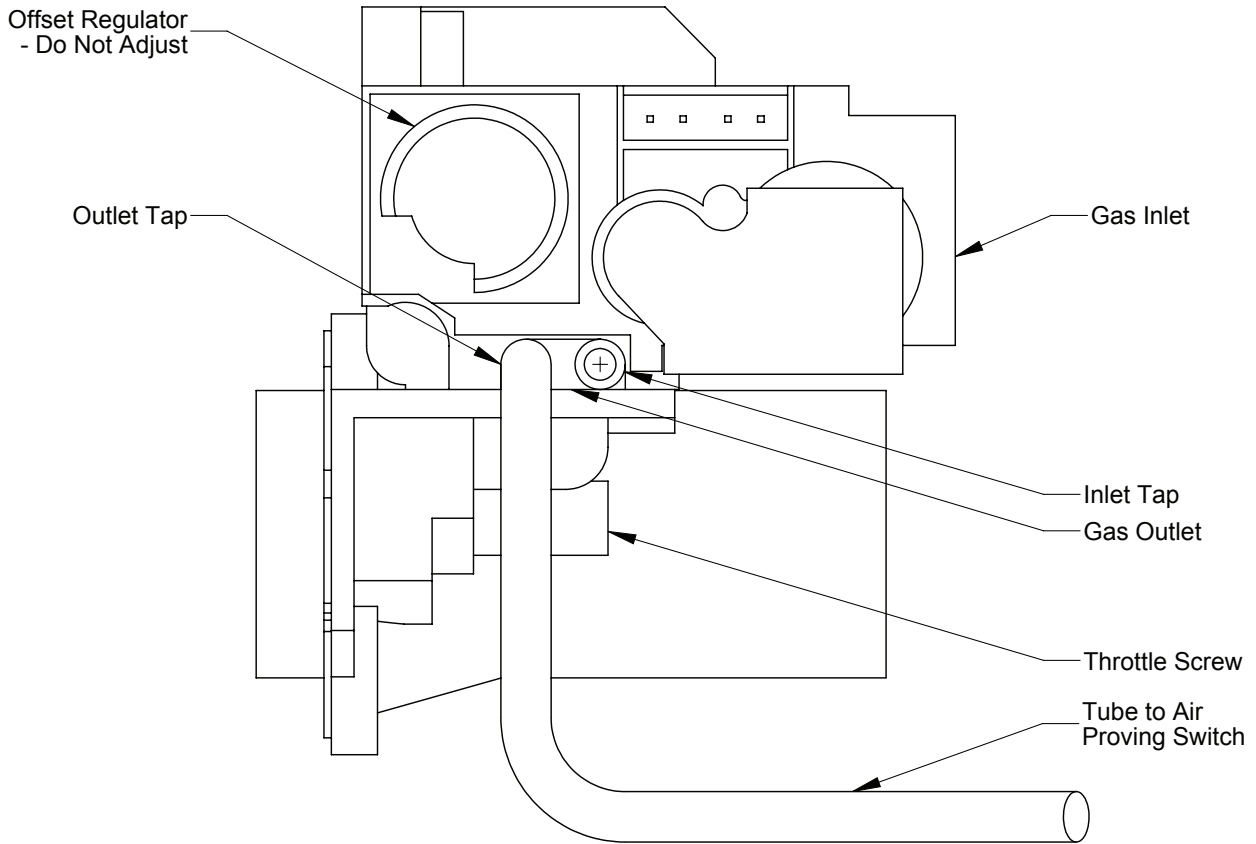

Figure A.3: Gas Valve Detail
- 3) Before attempting to start the boiler turn the throttle (Figure A.3) clockwise until it stops (several full turns).